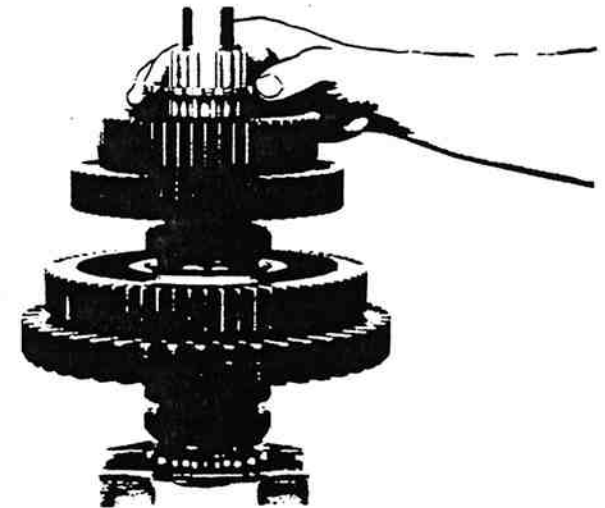

Figure 13-134. Installing Spacer in 4th Speed Gear.
20. Install spacer in 4th speed gear engaging external splines of spacer with clutching teeth of gear (figure 13-134).